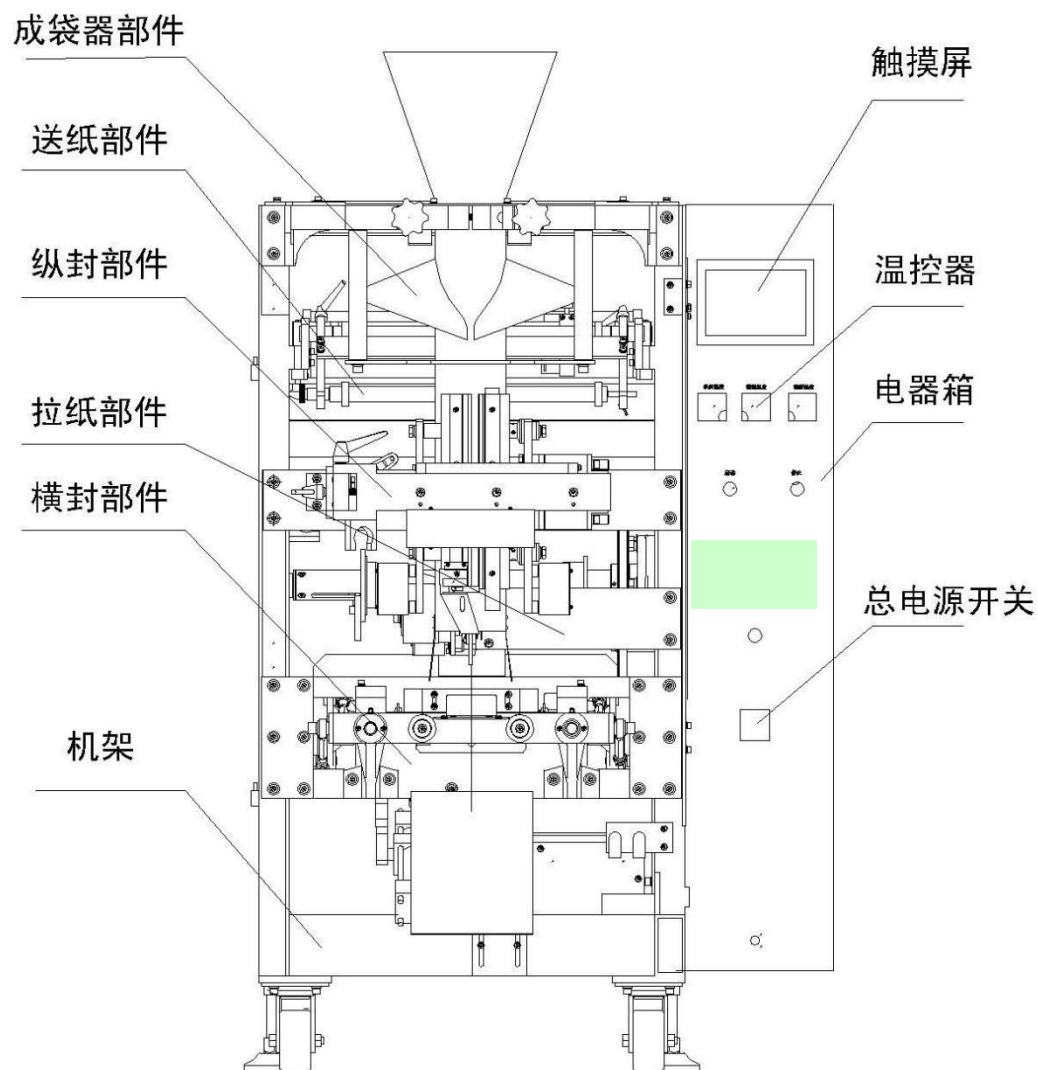

Figure 1 Schematic diagram of main components and related parts of zyd220
Zyd220 series vertical automatic packaging machine is a vertical bag forming filling sealing multifunctional packaging machine. The utility model is mainly composed of a frame (00), a transverse sealing mechanism (01), a middle sealing mechanism (02), a paper pulling mechanism (03), a paper feeding mechanism (05), a bag former component (06), a protective cover component (12) and an electrical component (01), as shown in Fig. 1